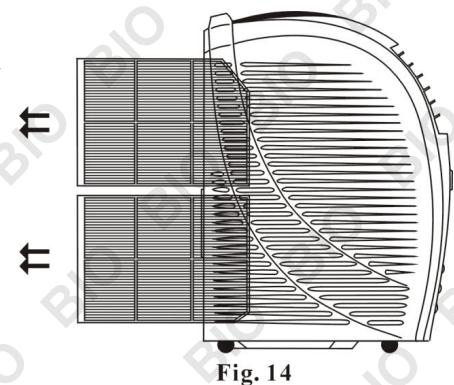

Fig. 14
- 1) Pull out the air filters (Fig.14).